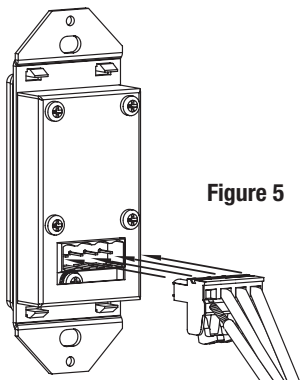

Figure 5 Installing the Connector
4. *Insert each wire into the appropriate hole on the removable connector plug, and snap the locking tab down. To help you, the connector plug is keyed. Insert the smooth side of the connector plug into the smooth side of the socket. Don't force the scalloped side of the connector plug into the smooth side of the socket. **(Figure 5)***